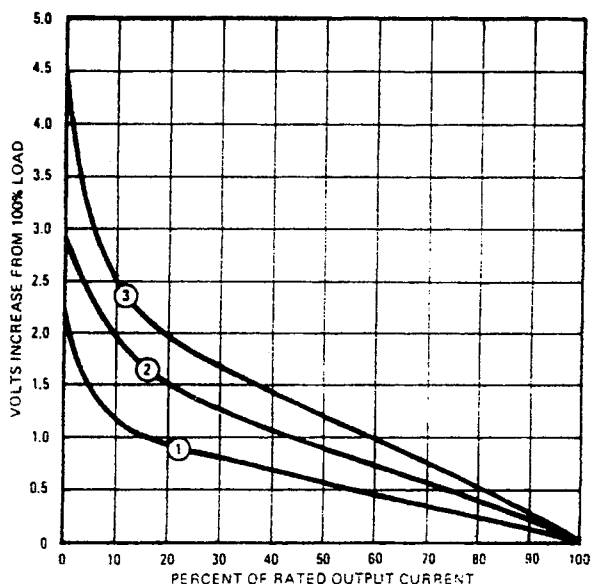

FIG. 2 TYPICAL LOAD EFFECT CURVES FOR PRR MODELS
LOAD EFFECT: See Table 1 and applicable load effect curve in FIG. 2.
OUTPUT VOLTAGE ACCURACY: Within  $\pm 2\%$ , or 0.25V, whichever is greater, of the specified output voltage, at nominal source voltage, 30°C ambient temperature, at maximum load and following a 30-minute warm-up period. Allow for an initial (cold) voltage approximately 1% higher than the specified output voltage accuracy. The output voltage increase at output current levels less than the maximum rated may be read from the load effect curves (FIG. 2) and must be added to the nominal output level.
- B) **OUTPUT IMPEDANCE:** The impedance at d-c and at frequencies below 10 KHz is a function of the load effect curves shown in FIG. 2. It may be determined from the slope of the plotted curves ( $Z_o = \Delta E_o / \Delta I_o$ ). The output impedance at frequencies above 10 KHz can be computed by adding the effect of a 2  $\mu$ H series inductance to the low frequency value found in FIG. 2.